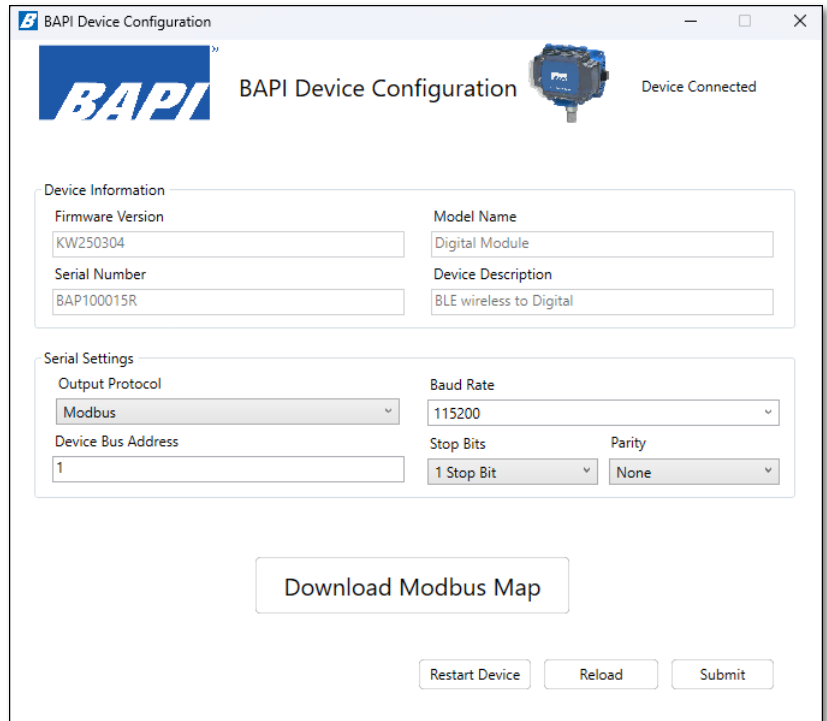

Fig. 4: Device Configuration Window in Modbus Protocol
3. Connect a USB cable between your computer and the USB-C connector on the module. The data for the device settings will populate the Device Configuration Window (Fig 4). **Note:** The module does not need to be powered for the configuration. The USB-C cable will provide the necessary power.